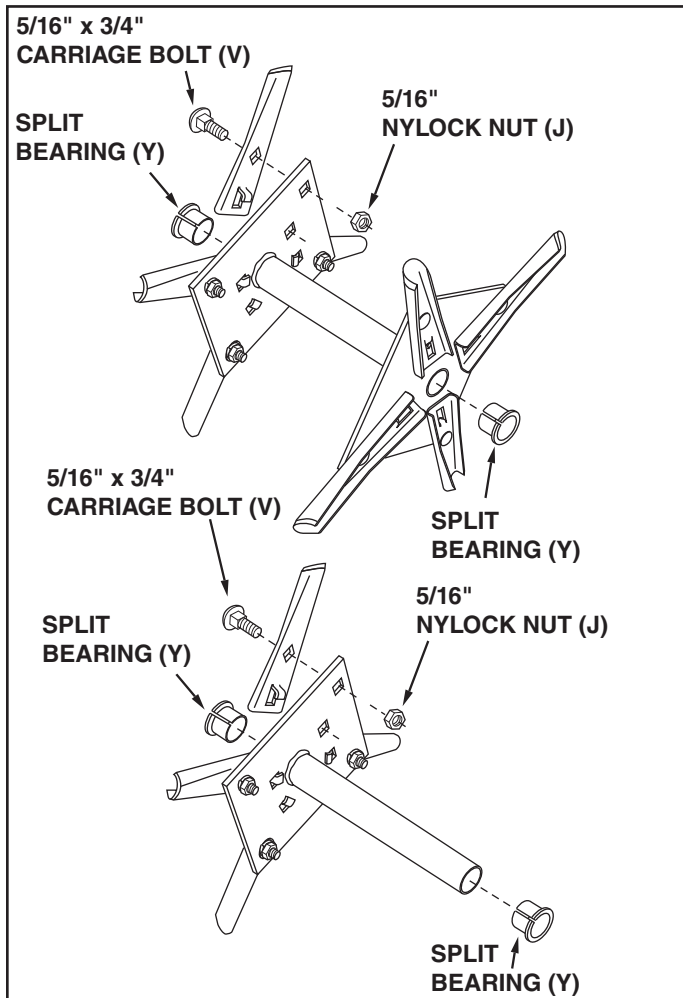

FIGURE 1
1. Assemble eight aerator knives on the outside of each double spool assembly. Assemble four aerator knives on the outside of each single spool assembly. Rotate each knife to insert the locking tab into the spool plate, then align the square holes and secure with a 5/16" x 3/4" carriage bolt (V), and a 5/16" nylock nut (J). See figure 1.
2. Push split plastic bearings (Y) into both ends of all spool assemblies. See figure 1.